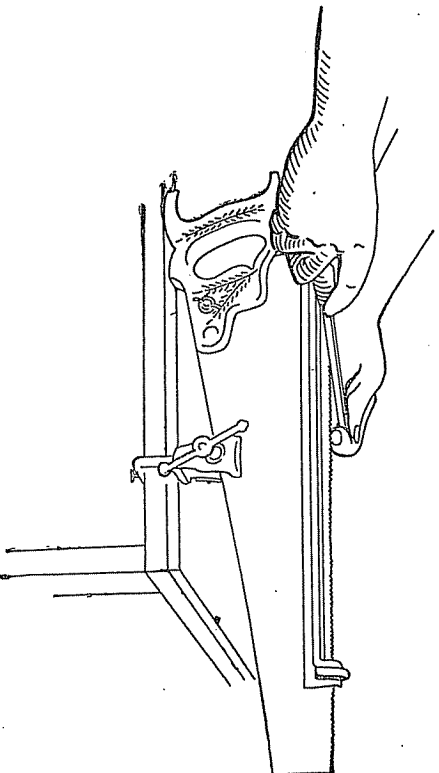

Fig. 19
**HOW TO FILE AND SET A SAW.** The first thing to do is to hold the saw in a vise of some kind. (See Fig. 19.) The first operation in filing and setting a saw is to level the teeth, which is known as top-